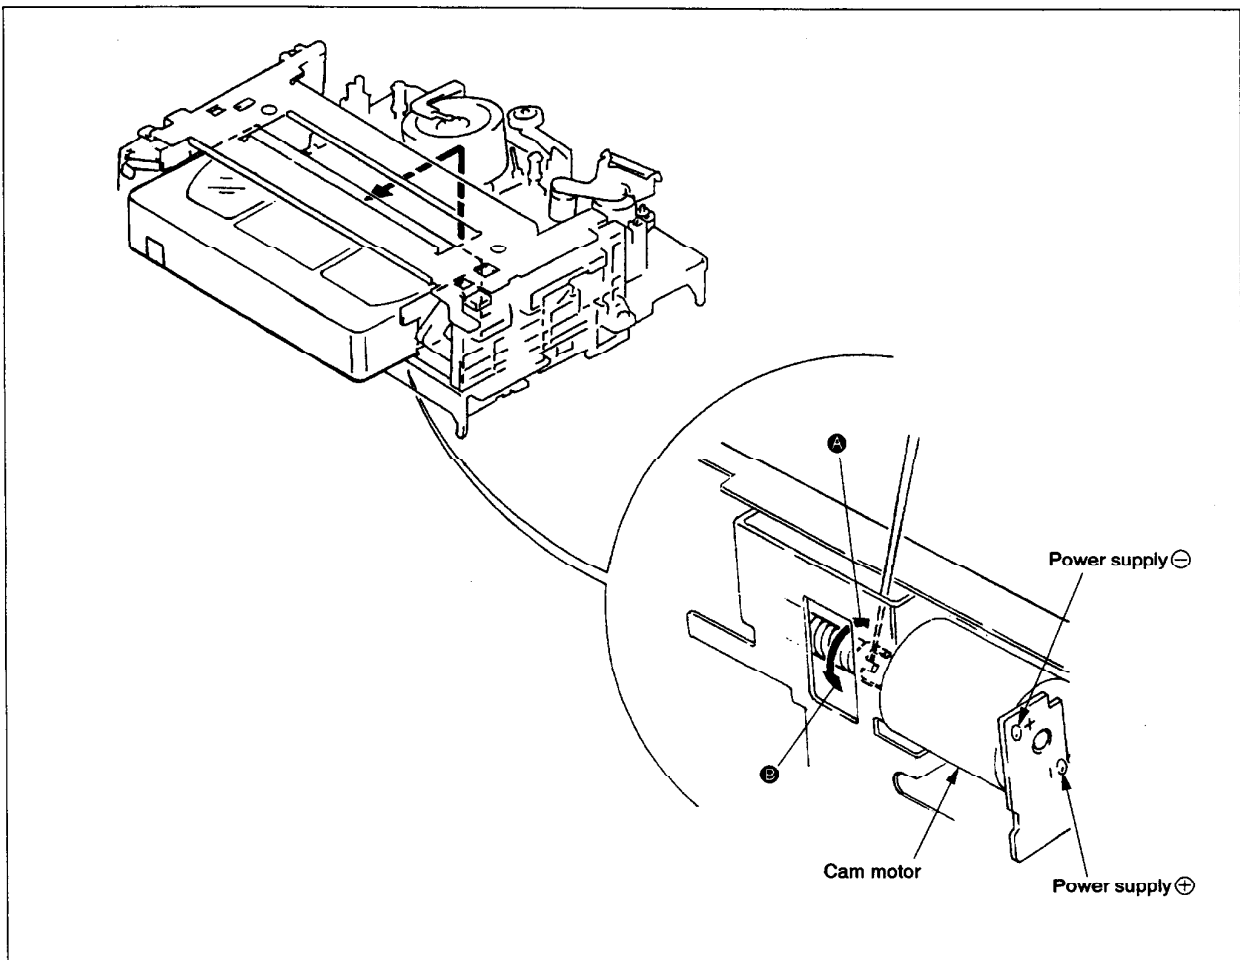

Fig. 1-2
1-2. UNLOADING AND UNTHREADING PROCEDURE WHEN THE POWER TURNS OFF (Figs. 1-2 and 1-3)
- 4) Check that tape is not loosened completely, and apply approx. +9 V (300 mA) to contrary polarities of cam motor with regulated DC power supply. (Fig. 1-2)